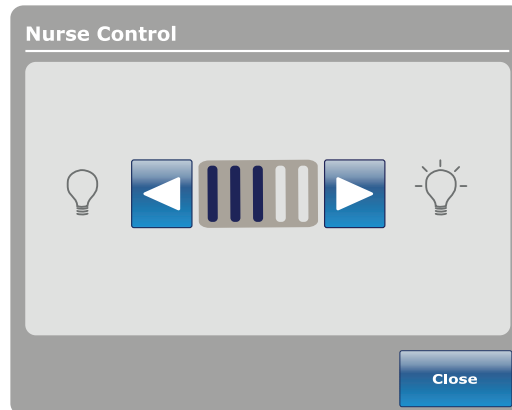

Figure 58: Nurse control LED intensity
2. Tap the left or right arrow (Figure 58 on page 73).
3. To save the LED intensity setting, tap **Close** (Figure 58 on page 73).